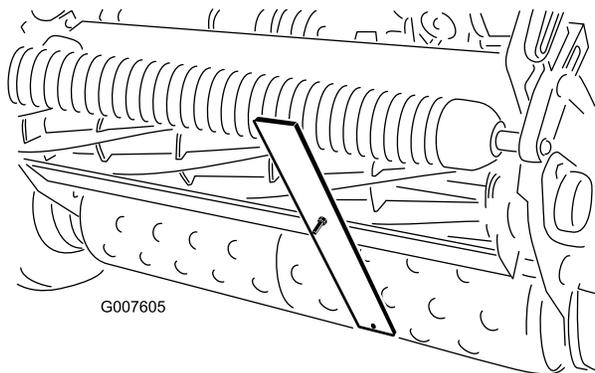

Figure 49
- Hook the screw head on the cutting edge of the bedknife and rest the rear end of the bar on the rear roller (Figure 49).